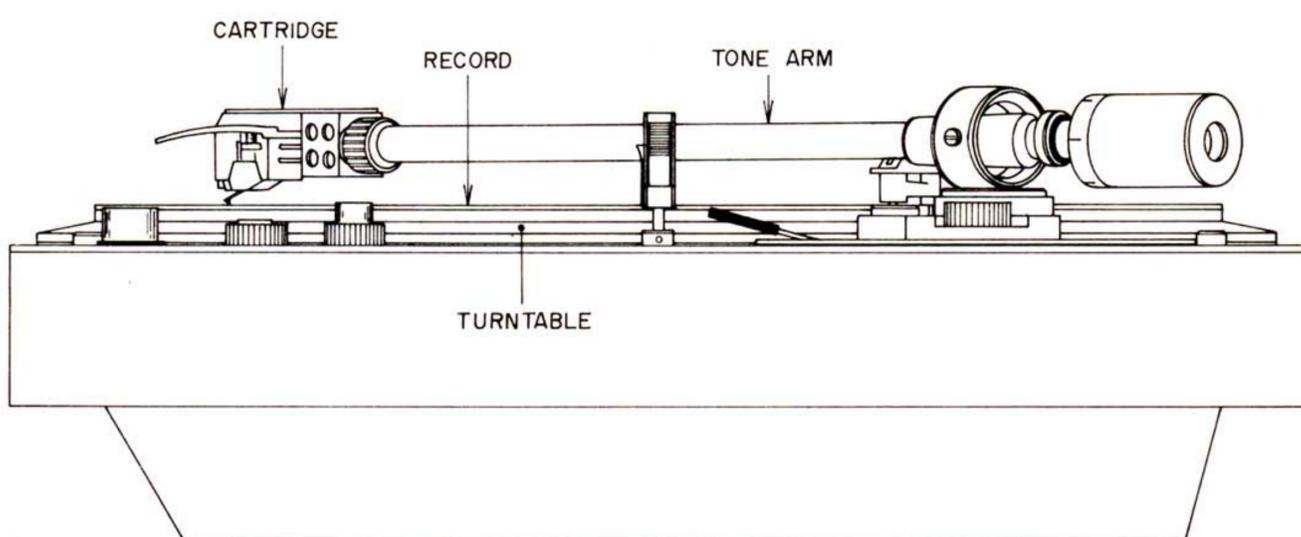

Fig. 6
- 2) While playing a record, adjust tone arm height so that the tone arm is exactly horizontal as shown in Fig. 6 and tighten screw.